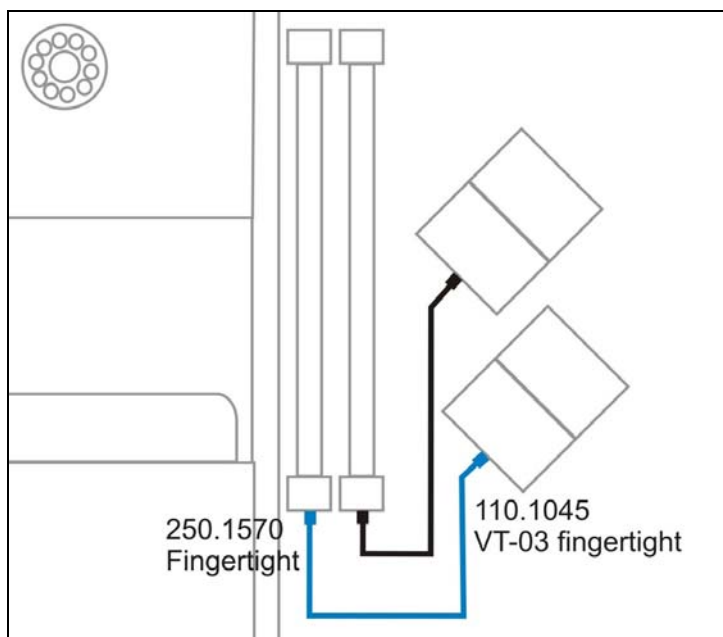

Figure 12. Assembly G' or Y: Connection between column - flow cell.
10. **Assembly H** *DECADE II outlet assembly (180.0218)*: Two assemblies H are provided to connect the flow cells to the waste bottle(s). Connect the PEEK tubing to the outlet of the VT-03 flow cell using the KEL-F fingertight. Guide the tubing through the tubing hole in the DECADE II into the waste bottles depicted in figure 12.